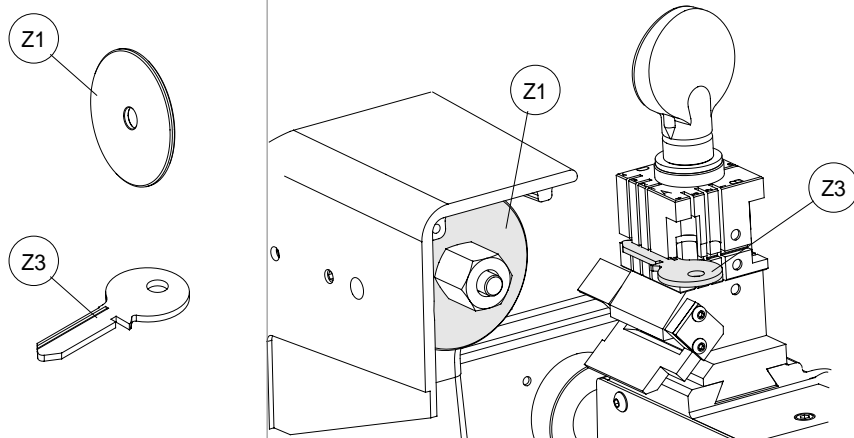

Fig. 25
- 3) replace the cutter with the (Z1) template (fig. 25). To remove the cutter follow the instructions on page 16, ch. 4.6 "Changing the cutter".